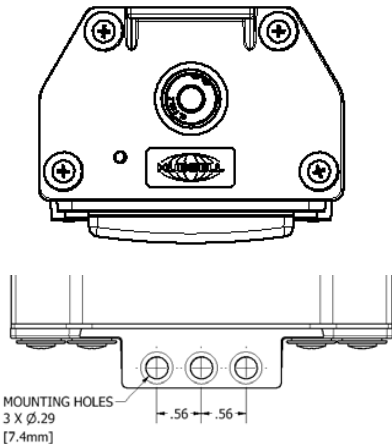

Figure 3
- A. The LALFP end caps have provisions for surface or suspension mounting. (See Figure 3)